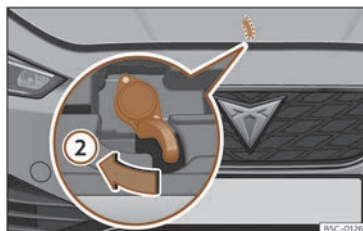

Fig. 214 Lever under the bonnet.
- To lift the bonnet, press towards the left on the lever located under the bonnet, in the centre >>> **Fig. 214** ②. The fastening hooks are unlocked.